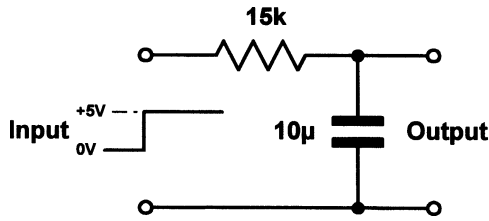

Figure A2.11
22. Determine the time taken for the output voltage in Fig. A2.11 to reach 4 V after the arrival of the pulse shown (assume that the capacitor is initially uncharged). [Page 53]